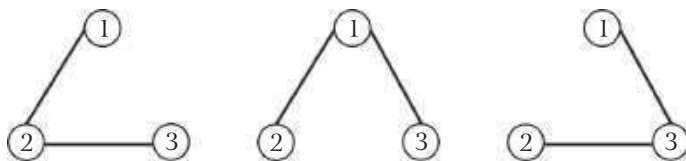

Fig. 8.4
2. For $n=3$, the total number of spanning trees $= 3^{3-2} = 3$, as shown in fig. 8.4.